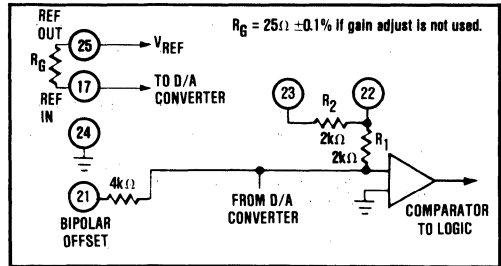

FIGURE 5. ADC10HT Input Scaling Circuit.
- Adjustable to zero (see Table II and Figures 5 and 6).
The analog input should be scaled as close to the maximum input signal range as possible in order to utilize the maximum signal resolution of the A/D converter. Connect the input signal as shown in Table II. See Figure 5 for circuit details.